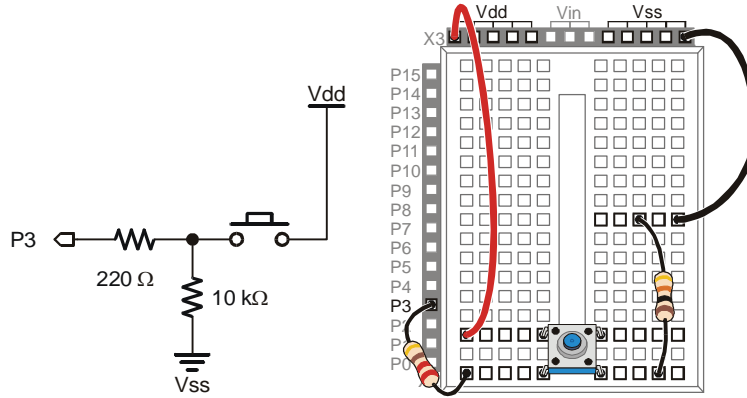
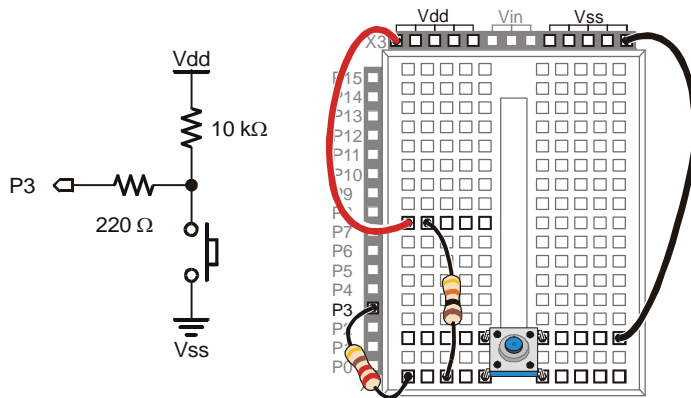

Figure 3-6
Figure 3-9
Figure 3-6 shows a pushbutton circuit that is connected to BASIC Stamp I/O pin P3.
- ✓ Build the circuit shown in Figure 3-6.
The circuit you just finished working with has a resistor connected to Vss. This resistor is called a *pull-down* resistor because it pulls the voltage at P3 down to Vss (0 volts) when the button is not pressed. Figure 3-9 shows a pushbutton circuit that uses a *pull-up* resistor. This resistor pulls the voltage up to Vdd (5 volts) when the button is not pressed. The rules are now reversed. When the button is not pressed, **IN3** stores the number 1, and when the button is pressed, **IN3** stores the number 0.
- ✓ Modify your circuit as shown in Figure 3-9.
Active-low vs. Active-high: The pushbutton circuit in Figure 3-9 is called *active-low* because it sends the BASIC Stamp a low signal (Vss) when the button is active (pressed). The pushbutton circuit in Figure 3-6 is called *active-high* because it sends a high signal (Vdd) when the button is active (pressed).